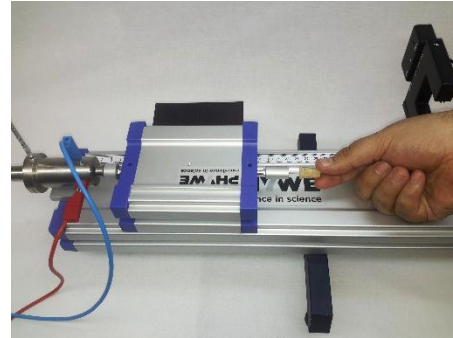

Figure 3.8: Removing the safety plug.
- 4- Remove the safety plug before pressing the metal plunger as shown in Figure 3.8.